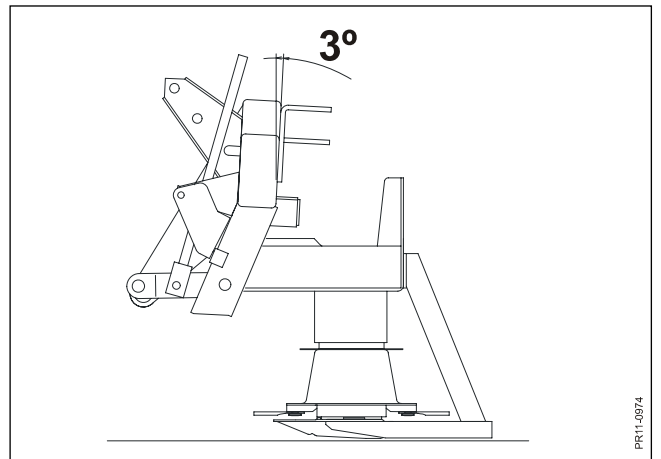

Fig. 3-9
- Fig. 3-9** The stubble height can be increased by tipping the machine up to 3° to the rear, meaning that the cutter bar moves horizontally across the ground.